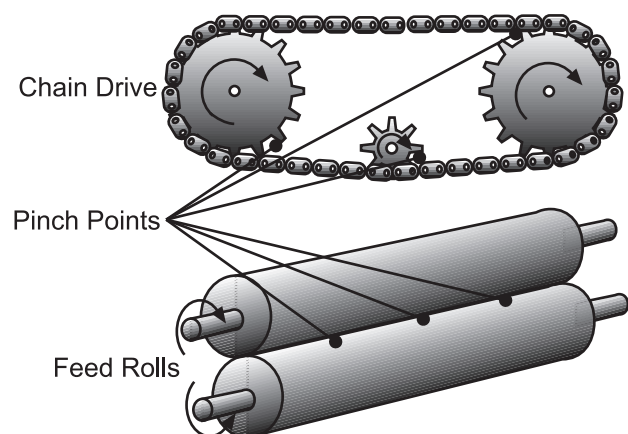

Figure 1. Pinch points on rotating parts can catch clothing, hands, arms and feet.
- **Pinch points** are areas where two or more parts move together with at least one part moving in a circle. The areas where drive belts contact pulleys or sprockets mesh with chains are prime examples of pinch points (Figure 1).